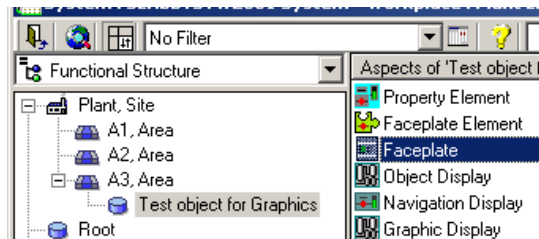

Figure 11. Faceplate aspect available for an object
- selecting Faceplate aspect in the Plant Explorer workplace, right-clicking it and selecting one of the required faceplate view from the context menu. See Figure 11.